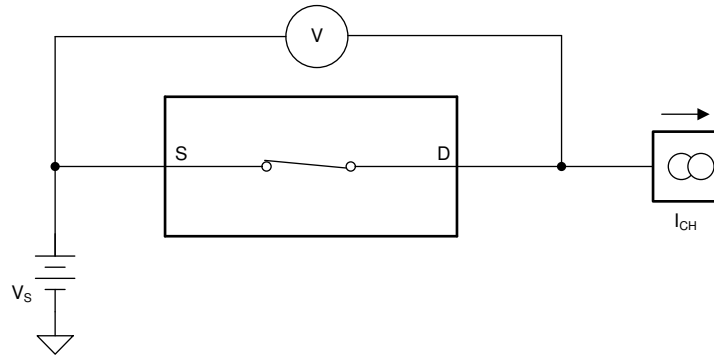

图 8-1. On-Resistance Measurement Setup
The on-resistance of the TMUX6121, TMUX6122, and TMUX6123 is the ohmic resistance across the source (Sx) and drain (D) pins of the device. The on-resistance varies with input voltage and supply voltage. The symbol R_{ON} is used to denote on-resistance. The measurement setup used to measure R_{ON} is shown in 图 8-1. Voltage (V) and current (I_{CH}) are measured using this setup, and R_{ON} is computed as shown in 方程式 1: